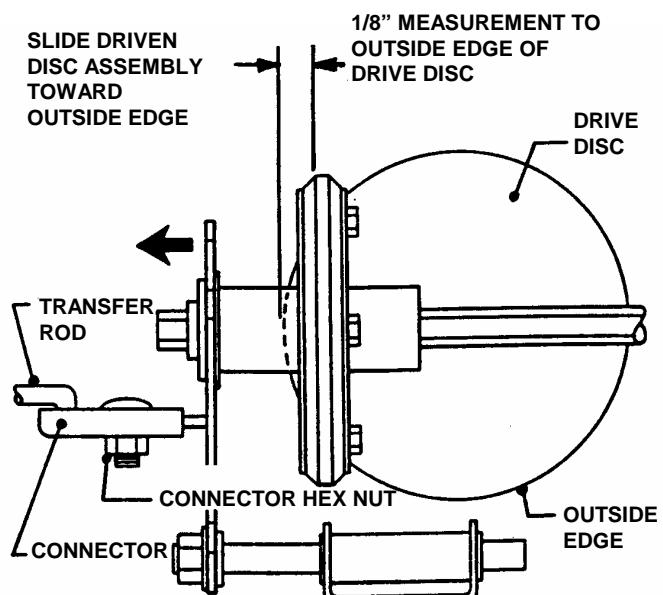

FIGURE 4.10
3. Slide driven disc assembly over to  $1/8"$  from outside edge of drive disc. Maintaining the  $1/8"$  measurement, remove any looseness from the linkage. This can be done by holding the transfer rod and applying pressure to the left (as viewed from operators position). Then retighten the connector hex nut securely. See Figure 4.10. Move ground speed control to the first speed position, then back to the sixth speed position. Recheck the  $1/8"$  measurement described previously. Reinstall driven disc spring to driven disc assembly.